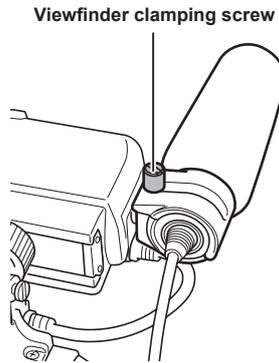

Fig. 2
- 2** Mount the microphone and tighten the viewfinder clamping screw. (Fig. 2)